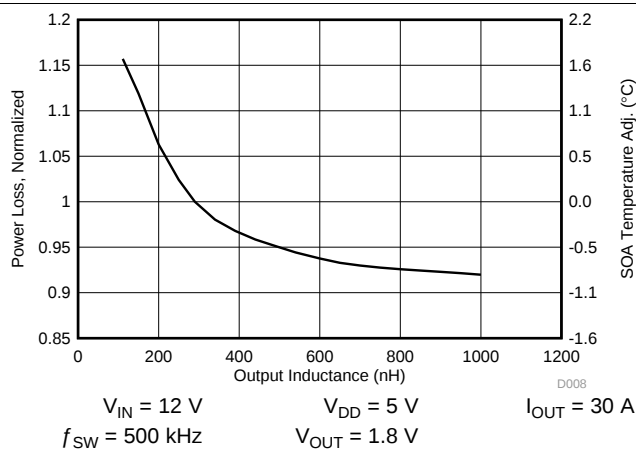

Figure 11. Normalized Power Loss vs Output Inductance
- Normalized Power Loss for output inductor ≈ 1.06 (Figure 11)
- SOA adjustment for output inductor $\approx 0.68^\circ\text{C}$ (Figure 11)